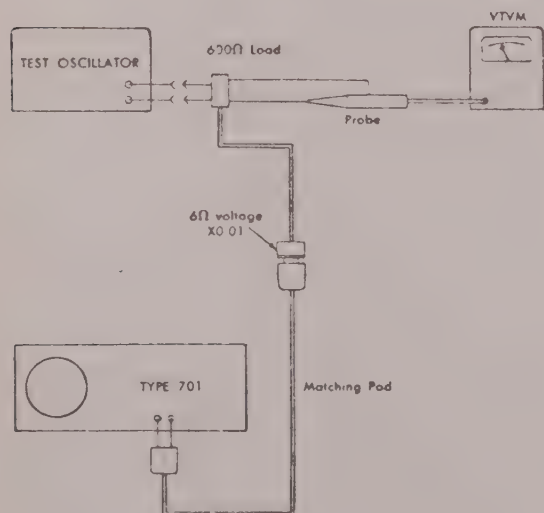

Figure 4-2. Test Setup for Bandwidth Measurement
1. Use the test setup depicted in Figure 4-2.
1. Use the test setup depicted in Figure 4-2 except that the X INPUT is connected directly to the 600-ohm load instead of the 6-ohm load.